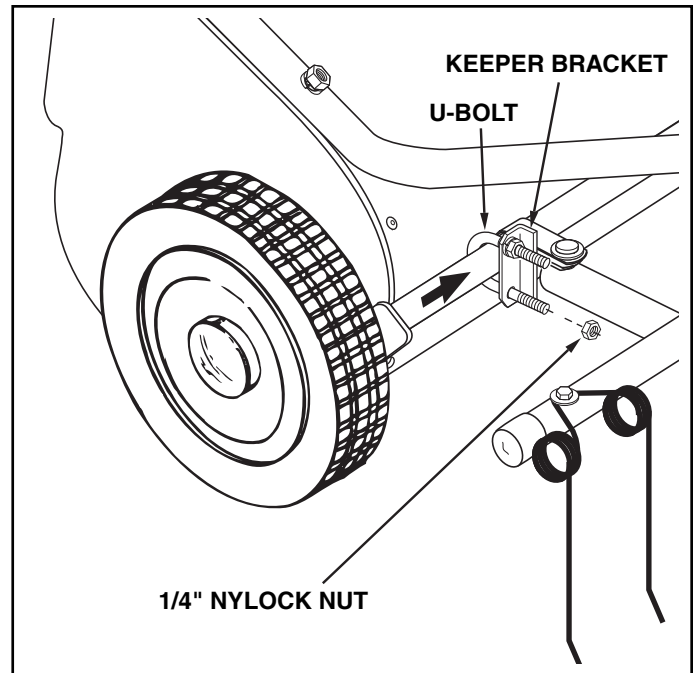

FIGURE 5
14. Assemble the keeper brackets (bend to the inside) to the sweeper's hitch tube, outside of the conduit clamps. Use a u-bolt and two 1/4" nylock nuts per bracket. Position the keeper brackets against the sides of the conduit clamps, approximately perpendicular to the ground. Tighten the nylock nuts without bending the keeper brackets. See figure 5.